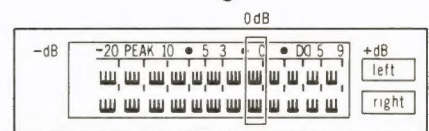

Fig. 17
4. At this time, check that 0 dB indicator is lighted halfway (intermediate brightness between full brightness and light-out: See fig. 17).